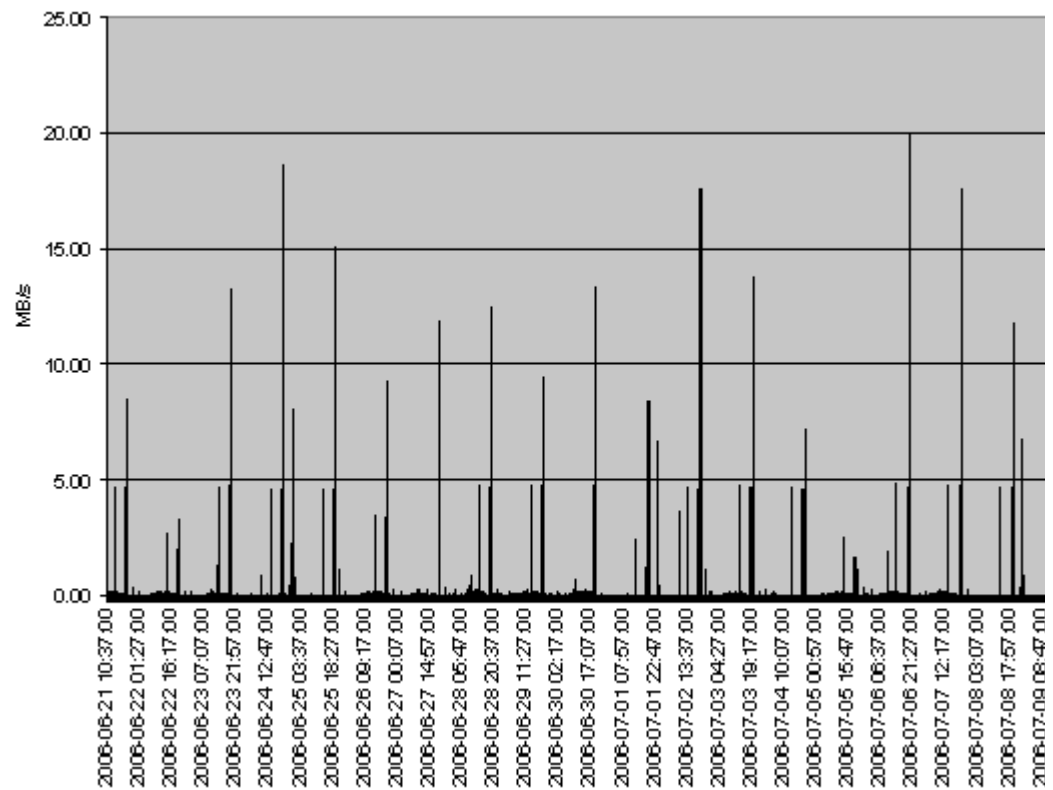

Figure 2-1: Data Throughput in MB/sec
2. At the end of the period, convert the data to MB-per-second, if it is not already so. Import the data into a spreadsheet tool. Figure 2-1 shows graphed data throughput in MB per second.